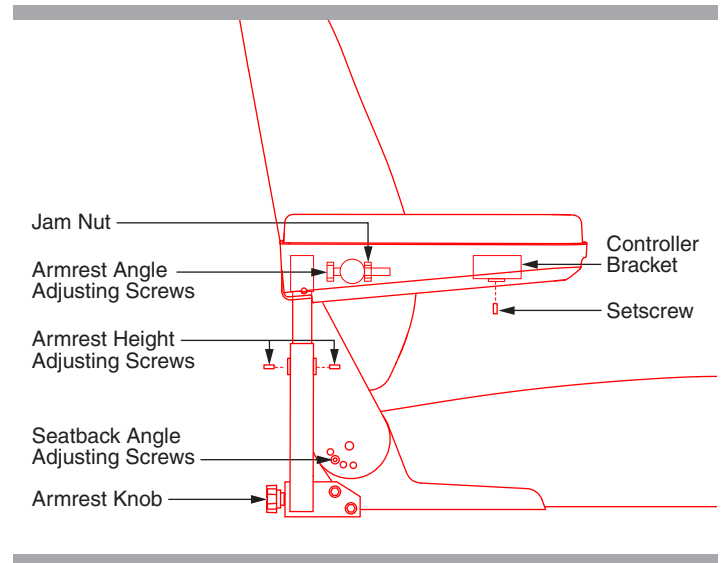

Figure 16. Seatback/Armrest Adjustment
1. Remove the adjusting screws from each seat hinge. **See figure 16.**
1. Locate the two armrest knobs on each side of the armrest receiver bracket. **See figure 16.**
1. Lift the armrest straight up so that it is perpendicular to the floor. **See figure 16.**
1. Loosen the two setscrews located on the armrest receiver. **See figure 16.**
2. Loosen the setscrew on the controller bracket. **See figure 16.**